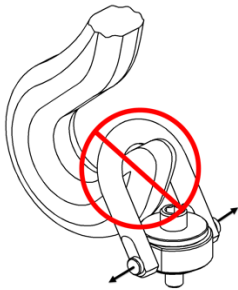

Fig 1
- NEVER use an oversize hook or other oversize lifting device that will pry or tend to open/deform the bail/U-shaped ring (Fig.1).